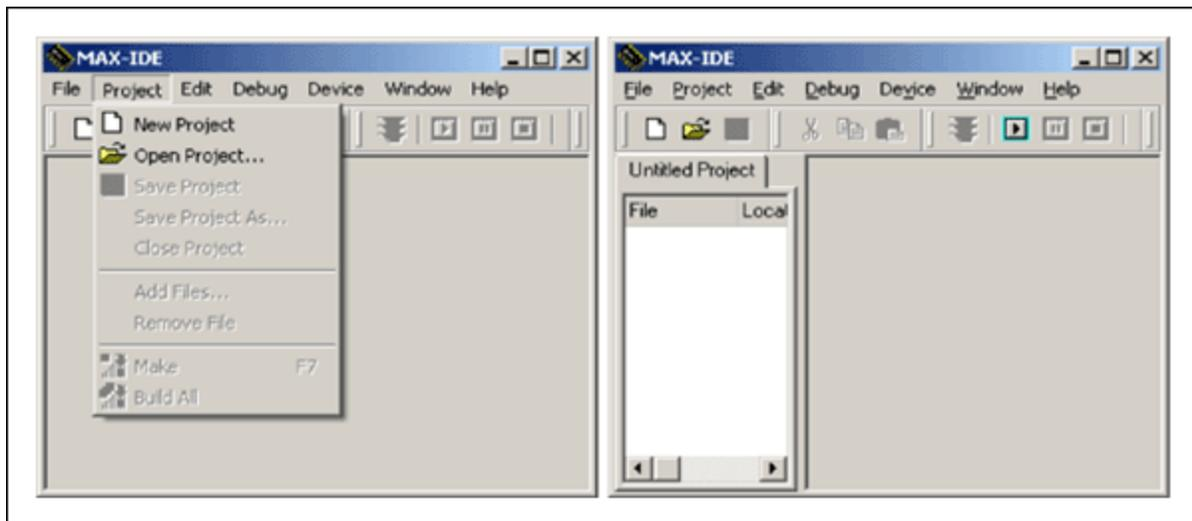

Figure 1. MAX-IDE's initial screens used to create a project.
Step 1: Choose **Project**→**New Project** from the menu. A new tab will open in the left side of the MAX-IDE's main window. This tab will be empty as there are no files in the project at present. **Figure 1** shows the MAX-IDE main menu with project menu open.